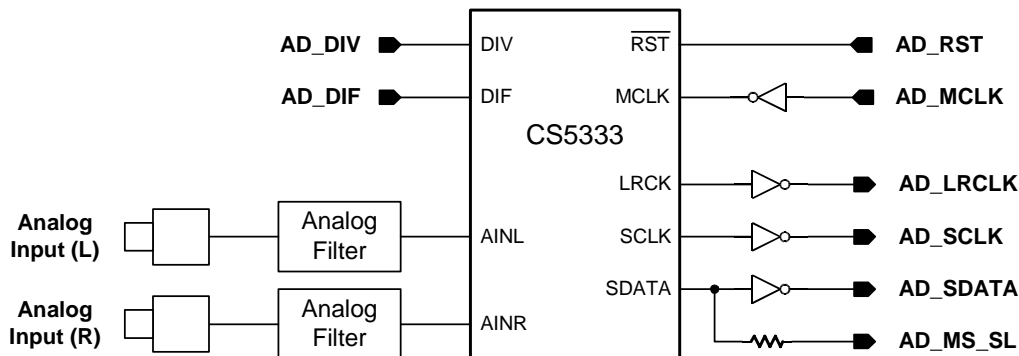

Figure 7: Block diagram of the ADC circuit.
The DigiAudio board has one stereo Analog-to-Digital Converter circuit to produce high quality digital signals for audio processing or recording. The ADC circuit has a pair of analog inputs, *Analog Input (L)* and *Analog Input (R)*. The block diagram of the ADC circuit is presented in Figure 7.